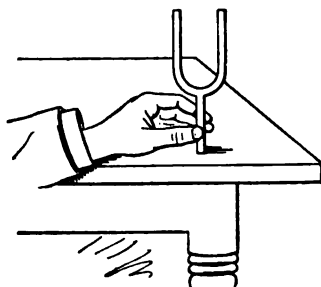

FIG. 126
**172. Forced Vibrations.** — If a tuning fork or a common silver table fork be struck against some solid body so that its prongs are made to vibrate, a clear tone may be heard if the fork is held *close to the ear*. If, however, the blow be struck and the handle be quickly placed on a board or table (leaving the prongs free, as in Fig. 126), the tone may be clearly heard *some distance away*.